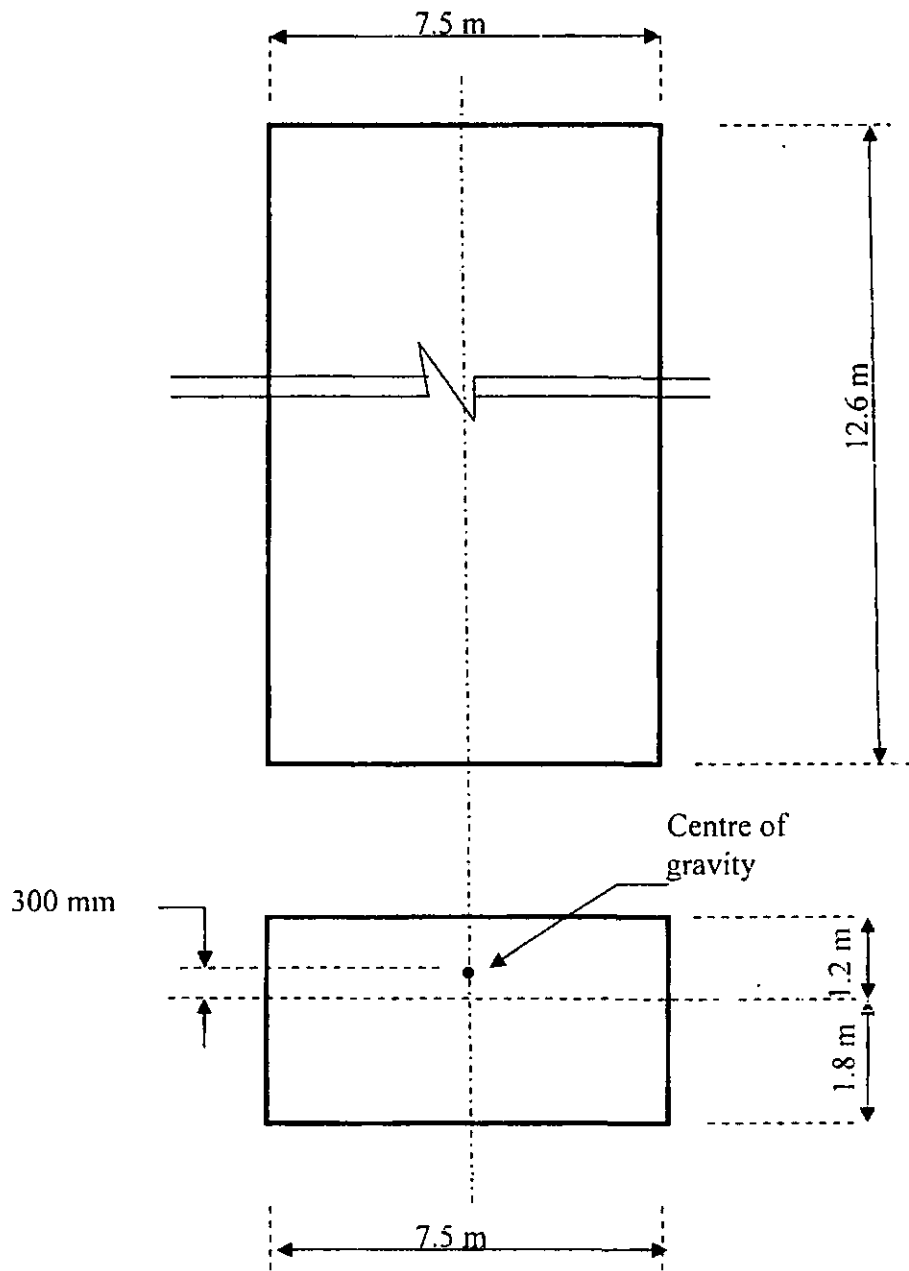

Figure Q10
- (c) A barge with a flat bottom and rectangular closed ends has a draft of 1.8 m when fully loaded and floating upright position as shown Figure Q10. The centre of gravity of the barge when fully loaded is on the axis of symmetry and 300 mm above the water surface. The length of the barge is 12.6 m, breadth 7.5 m and depth 3.0 m.